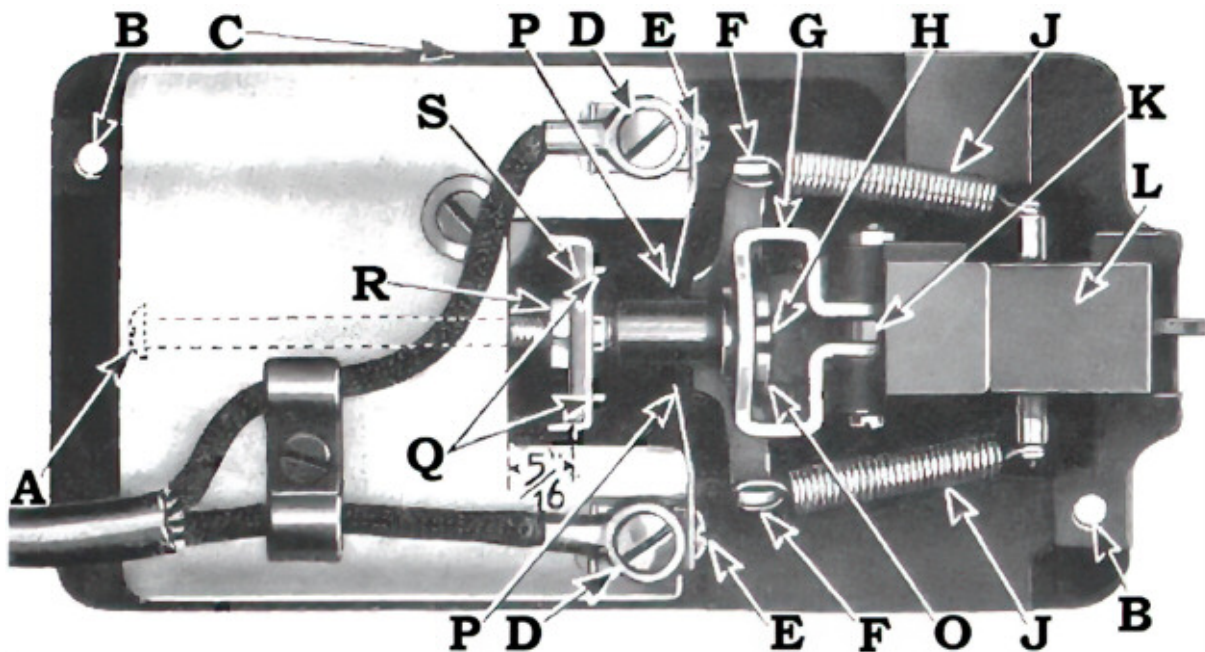
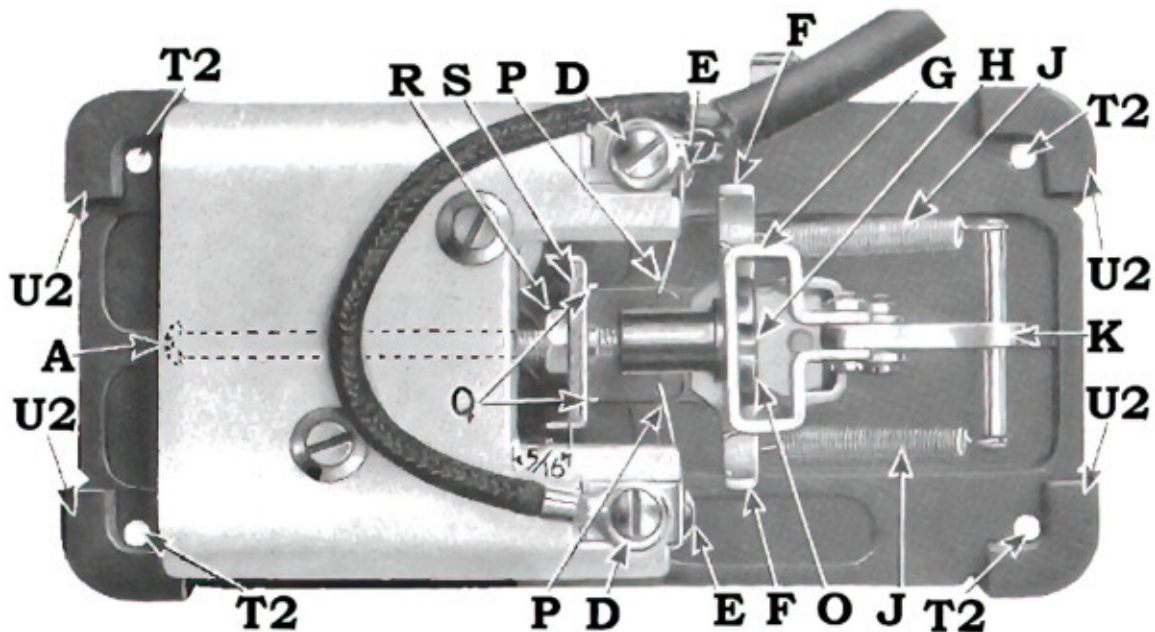
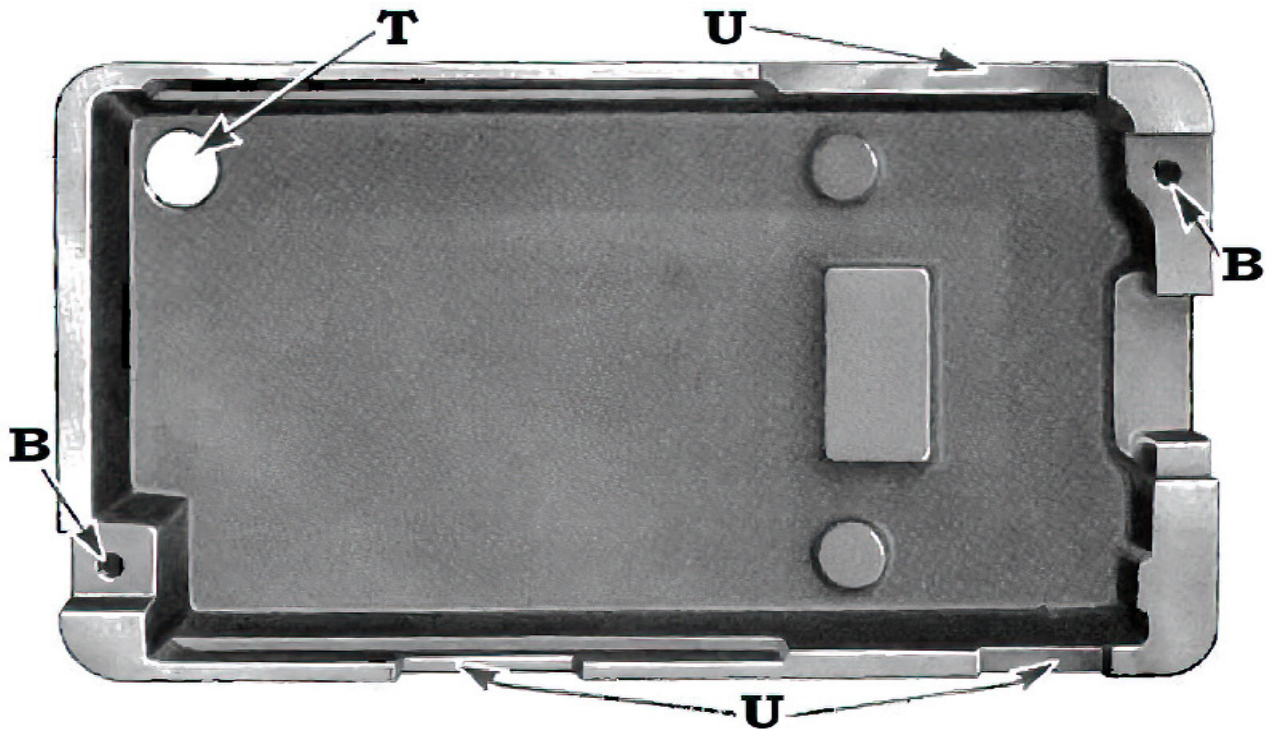
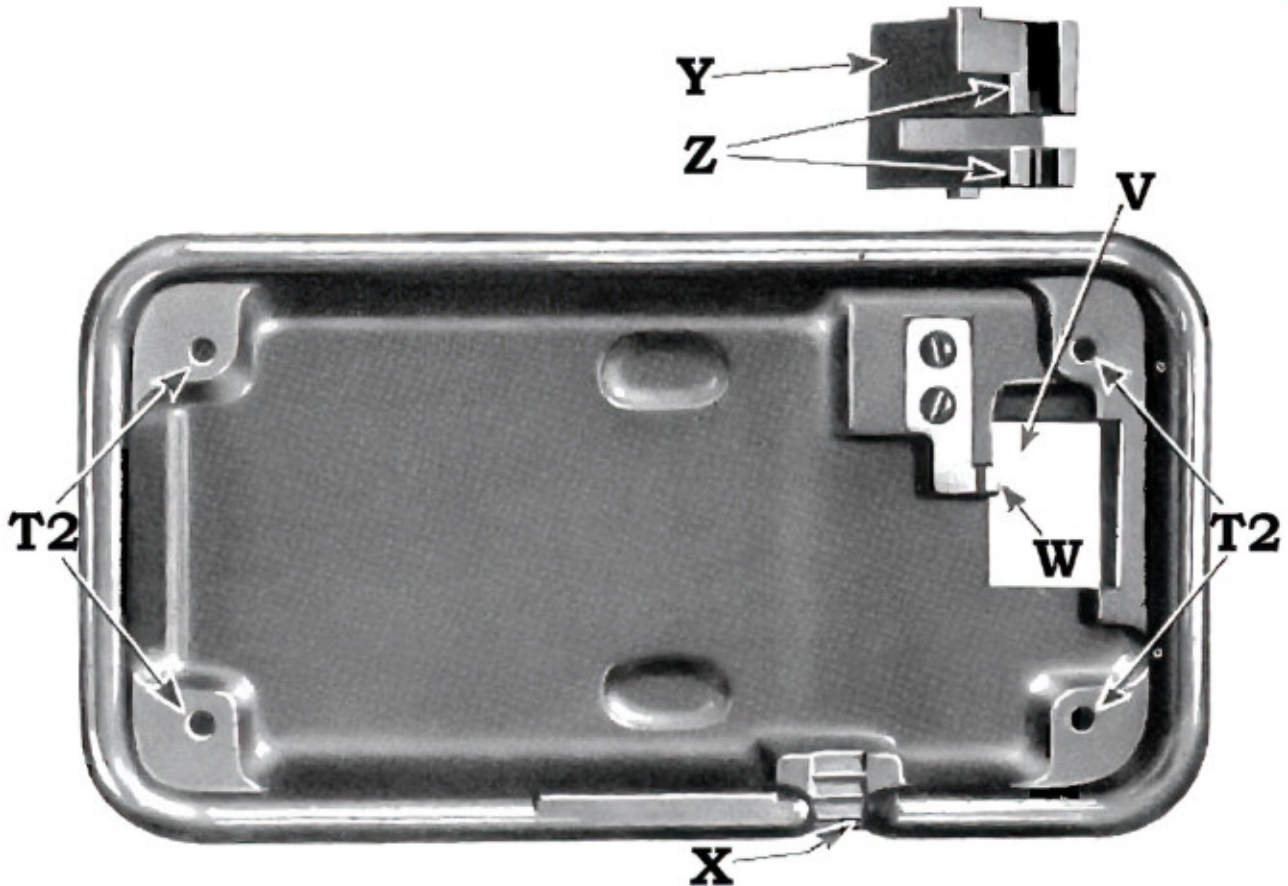

FIG. 26. BAKELITE TREADLE CONTROLLER—COVER REMOVED
FIG. 27. BAKELITE CONVERTIBLE FOOT AND KNEE CONTROLLER
FIG. 28. INSIDE VIEW OF THE BAKELITE TREADLE CONTROLLER COVER
FIG. 29. INSIDE VIEW OF COVER OF BAKELITE CONVERTIBLE FOOT AND KNEE CONTROLLER—SHOWING PEDAL DISENGAGED FROM COVER
**Treadle Controller.** Remove the controller from the stand to which it is attached, and remove the controller leads from the cabinet. Remove the two screws which fasten the cover, Fig. 28, to the base, Fig. 26, at (B), and lift the cover from the base. Inspect the wires and connections at (D, Fig. 26).
**Convertible Foot and Knee Controller.** Remove the complete controller and leads from the cabinet. Remove the four screws which fasten the cover, Fig. 29, to the base, Fig. 27, at (T2). If, after removal of these four screws, the cover adheres tightly to the base, **do not attempt to pry it off, as such procedure would mar or break the cover or base or both.**
With the four fastening screws removed, hold the controller in the left hand and, with the right hand, press the pedal (Y, Fig. 29) all the way down. This will disengage the base from the cover. Inspect the wires and connections at (D, Fig. 27).
(See Fig. 26, showing the Bakelite Treadle Controller, or see Fig. 27, showing Bakelite Convertible Foot and Knee Controller.
(a). When the crank (K) is at the "off" position with its lower end resting upon the base of the spring bracket (F), the face of the Bakelite strip (S) should be  $\frac{5}{16}$  inch from the flat face of the porcelain, as shown in Figs. 26 and 27. If this distance is not  $\frac{5}{16}$  inch, release the insulated nut (O) from its seat by pushing on the end of the pull rod at (A) and turn the nut (O) until the correct adjustment is obtained. Be sure that the nut (O) seats in the yoke (G) and that the pin (H) of the yoke engages one of the four notches in the head of the nut (O).
(b). Pull back the moulded link (L, Fig. 26) as far as it will go, against the tension of the springs (J), for full speed position of the **treadle controller**.
Press down the crank (K, Fig. 27) as far as it will go, for full speed position of the **convertible foot and knee controller**.
See that the bell crank (K) is at the "off" position with its lower end resting upon the base of the spring bracket (F). There are two notches on each of the two spring bracket posts (F). The upper notches are for the loops of the springs (J) used in the treadle controller, Fig. 26,
While the lower notches are for the loops of the springs (J) used in the convertible foot and knee controller, Fig. 27. Make sure that these springs (J) are properly attached, as shown in Figs. 26 and 27.
**Replace the Cover—Treadle Controller. (See Fig. 28).**
**CAUTION.** When inserting the two self-threading fastening screws at (B, Figs. 26 and 28), fell carefully with the screws to **insure that the threads on these screws coincide with the threads previously cut in the cover by the original insertion of these screws.**
**Replace the cover—Convertible Foot and Knee Controller. (See Fig. 29.)** Probably the pedal (Y) became separated from the cover as the latter was removed from the controller base. Note that its replacement in the cover is not possible except in the correct manner, viz: Insert from the inside of the cover and with one of the two long projections (Z) against the metal guide (W).
See that the rubber pads (U2, Fig. 27) are firmly in place on each corner of the base, as shown in Fig. 27.